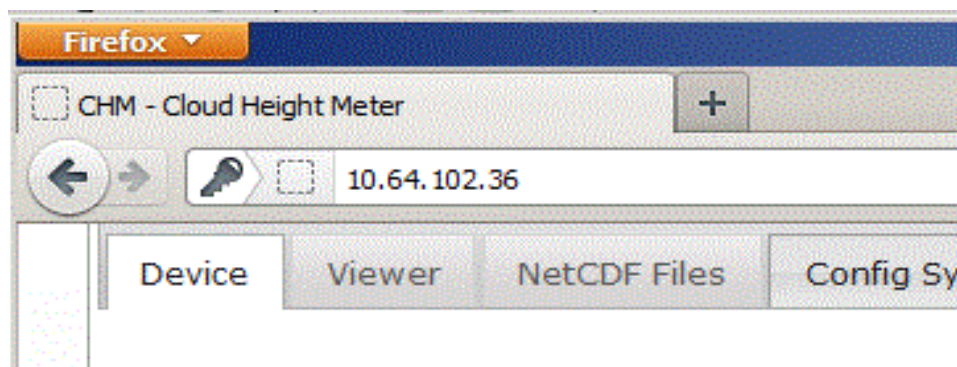

Fig. 13: Firefox browser to access to a CHM 15k Nimbus instrument (here with a fixed address).
The service address (1) can not be modified by the user. It is always available and can be used for direct connections between a laptop and the CHM 15k Nimbus. The address (3) can be entered in a web browser window (Fig. 13) to communicate with the instrument. Fig. 17 shows the "Config Network" tab in the Firefox web browser. Superuser authorization is required to change the user IP address (3).